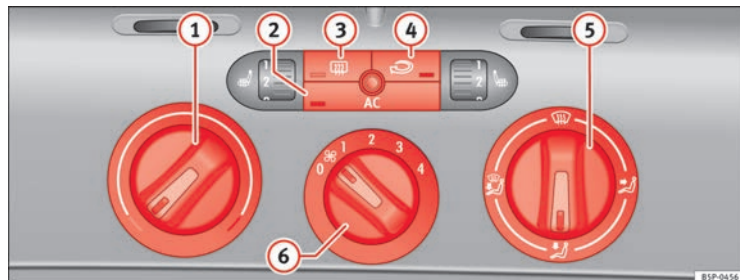

Fig. 131 On the dash panel: Climatic controls
- Turn the temperature selector ⇒ Fig. 131 ① clockwise to select the required temperature.